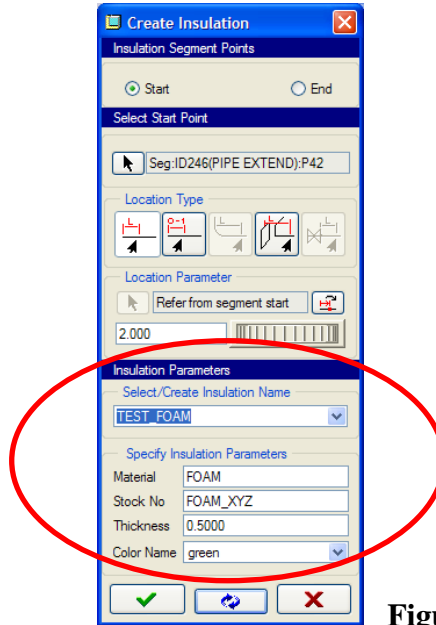

Figure 13
- Ensure that the loaded or created Insulation file is showing in the “**Insulation Parameters**” section and that the information is correct. Then click the green checkmark to create the insulation. (See Figure 13)